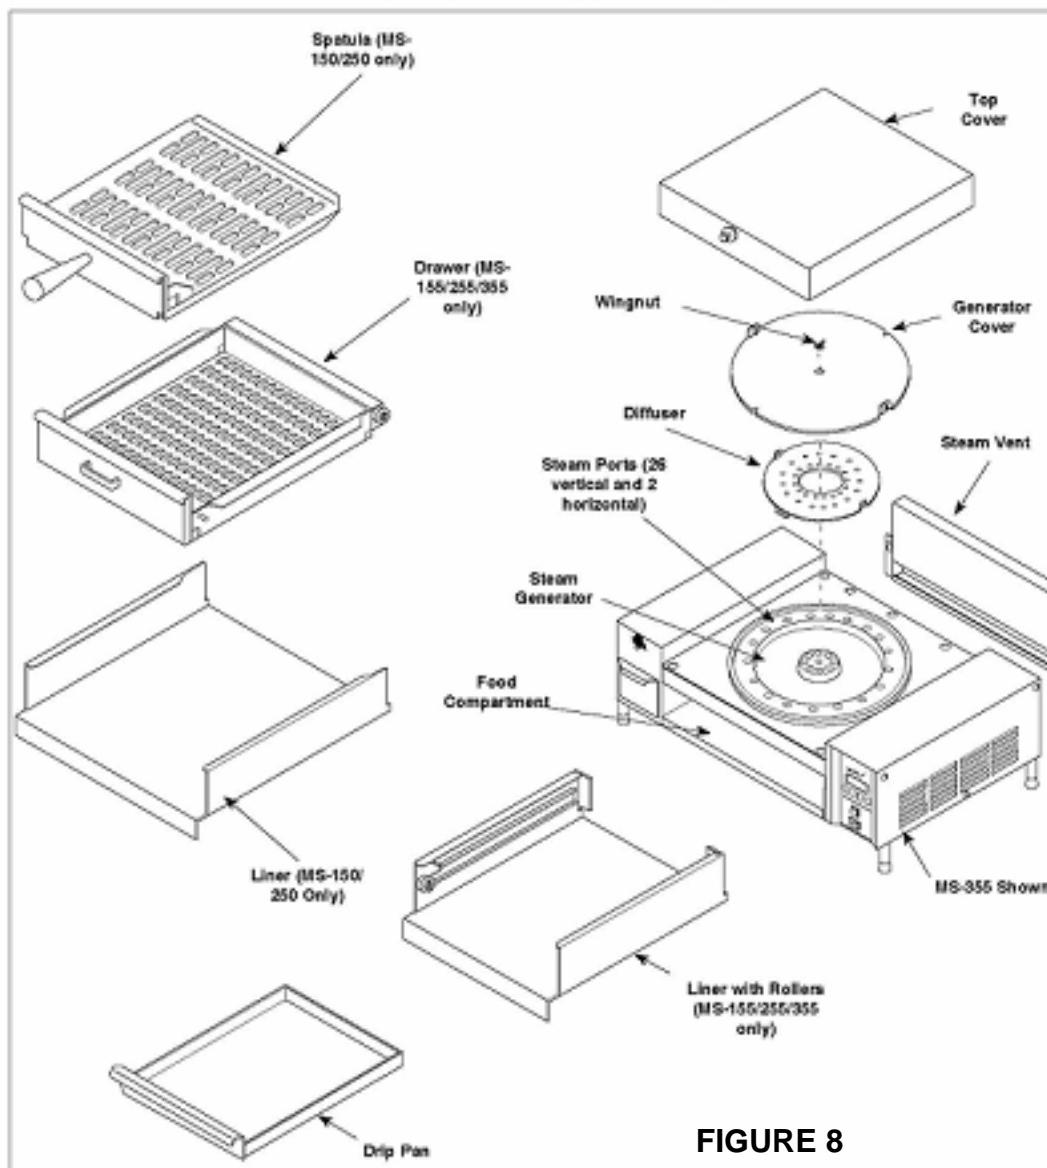

FIGURE 8
- Remove the Spatula (MS-150/250 only), Drawer (MS-155/255/355 only), Liner, Drip Pan, Top Cover, and Steam Vent (Figure 8).**
- Wipe down the food compartment and the entire exterior of the unit (Figure 8) with a clean, hot, damp cloth (not dripping wet) and wipe dry.**
3. Remove the wing nut, Generator Cover, and Diffuser (Figure 8). Wash these items in hot, soapy water, rinse and **WIPE DRY**.
4. With the unit cool, use a wire brush and/or scraper to loosen and remove the excessive calcium/mineral deposits from the generator surface (Figure 8). Next, take a wire brush and clean out any build up that has accumulated in the 28 steam ports (26 vertical and 2 horizontal) of the generator (Figure 8). Remove the loose build up, wipe the generator with a clean, damp cloth, and reassemble the unit.